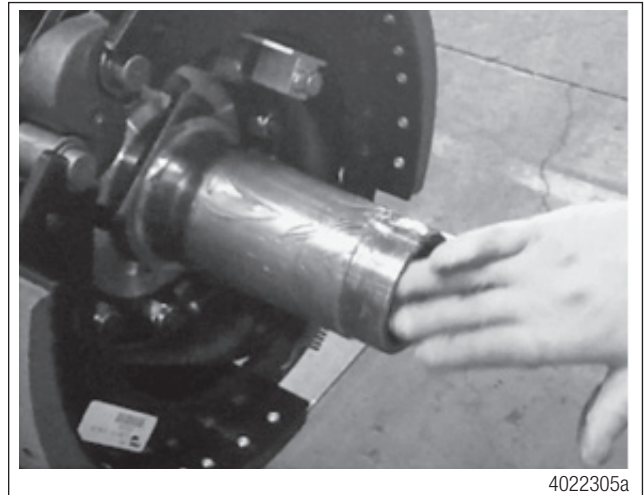

Figure 23
1. Apply grease to the outer surfaces of the spindle and axle shaft. Figure 23.